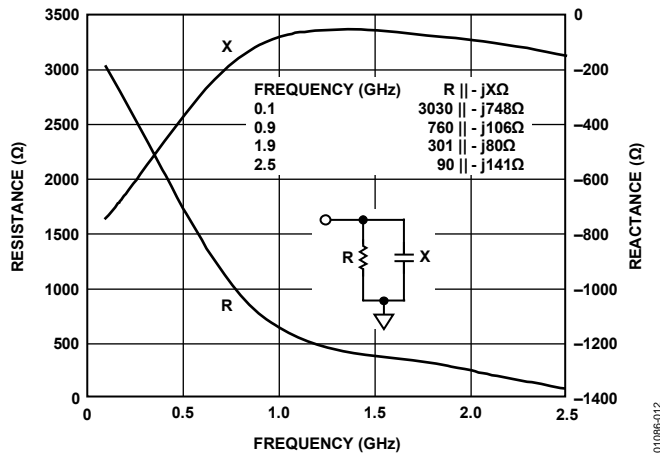
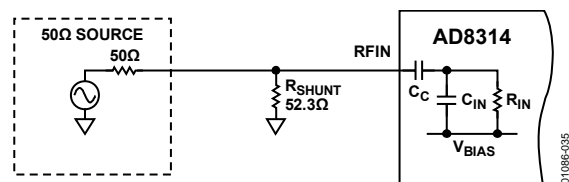
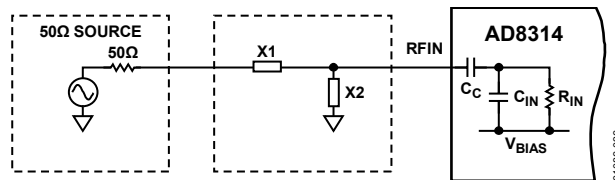
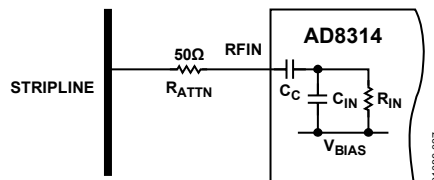

Figure 12. Input Impedance
Figure 35. Broadband Resistive
Figure 36. Narrowband Reactive
Figure 37. Series Attenuation
The internal 5 pF coupling capacitor of the AD8314, along with the low frequency input impedance of 3 k $\Omega$ , gives a high-pass input corner frequency of approximately 16 MHz. This sets the minimum operating frequency. Figure 35 through Figure 37 show three options for input coupling. A broadband resistive match can be implemented by connecting a shunt resistor to ground at RFIN (see Figure 35). This 52.3  $\Omega$  resistor (other values can also be used to select different overall input impedances) combines with the input impedance of the AD8314 (3 k $\Omega$  || 2 pF) to give a broadband input impedance of 50  $\Omega$ . While the input resistance and capacitance ( $C_{IN}$  and  $R_{IN}$ ) varies by approximately  $\pm 20\%$  from device to device, the dominance of the external shunt resistor means that the variation in the overall input impedance is close to the tolerance of the external resistor.
At frequencies above 2 GHz, the input impedance drops below 250  $\Omega$  (see Figure 12), so it is appropriate to use a larger value shunt resistor. This value is calculated by plotting the input impedance (resistance and capacitance) on a Smith Chart and choosing the best value shunt resistor to bring the input impedance closest to the center of the chart. At 2.5 GHz, a shunt resistor of 165  $\Omega$  is recommended.
A reactive match can also be implemented as shown in Figure 36. This is not recommended at low frequencies as device tolerances dramatically varies the quality of the match because of the large input resistance. For low frequencies, Figure 35 or Figure 37 is recommended.
In Figure 36, the matching components are drawn as general reactances. Depending on the frequency, the input impedance at that frequency, and the availability of standard value components, either a capacitor or an inductor is used. As in the previous case, the input impedance at a particular frequency is plotted on a Smith Chart and matching components are chosen (shunt or Series L, shunt or Series C) to move the impedance to the center of the chart. Table 5 gives standard component values for some popular frequencies. Matching components for other frequencies can be calculated using the input resistance and reactance data over frequency, which is given in Figure 12. Note that the reactance is plotted as though it appears in parallel with the input impedance (which it does because the reactance is primarily due to input capacitance).
Figure 37 shows a third method for coupling the input signal into the AD8314, applicable in applications where the input signal is larger than the input range of the log amp. A series resistor, connected to the RF source, combines with the input impedance of the AD8314 to resistively divide the input signal being applied to the input. This has the advantage of very little power being tapped off in RF power transmission applications.
**Table 5. X1 and X2 Recommended Components in Figure 36**